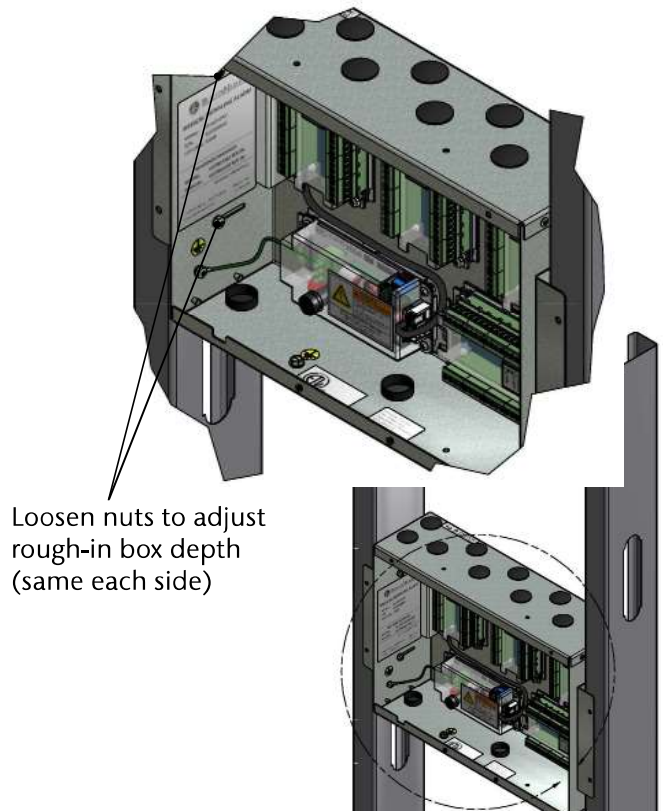

Figure 18: Mounting Bracket Adjustment
2. Remove cardboard dust cover and DISS tube assemblies (if included) and insert alarm rough-in box into wall opening. Secure with fasteners suitable for vertical supports (Figure 18).
3. Mounting brackets on each side of rough-in box are adjustable and factory preset for 5/8" thick drywall. After drywall installation, front edge of rough-in box should be flush with finished surface of wall. If needed, make any necessary bracket adjustments at this time (Figure 18).